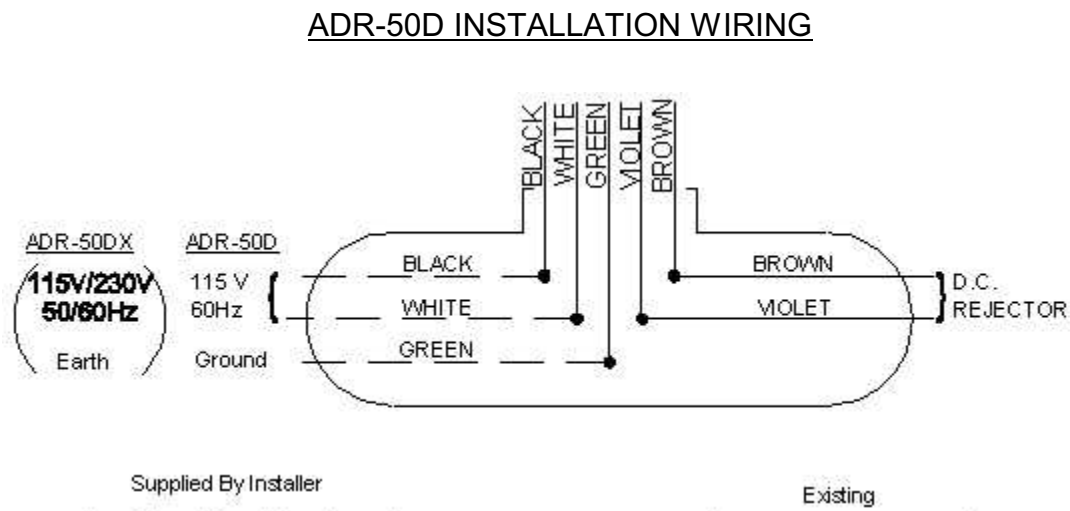

FIGURE 2.2
2.4.2 ELECTRICAL INSTALLATION: Bring a power line with ground into the conduit junction box at the lower end of the pipe. Wire as shown in figure 2.2. Connect the black wire (L-1) to the black wire, the white wire (L-2) to the white wire and the green wire (Ground) to green. Connect the wires from the rejector (red and brown) to the corresponding wires in the conduit box.